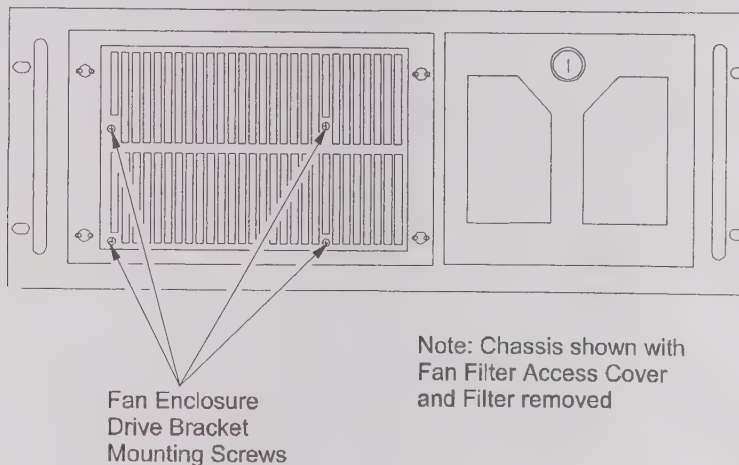

Figure 4-5: Fan Enclosure Drive Bracket Mounting Screws
4. Remove the fan enclosure drive bracket by removing the four mounting screws on the front of the chassis (**Figure 4-5**). If necessary, remove connectors from the existing drive to allow easy access. Lift the drive bracket out of the chassis.